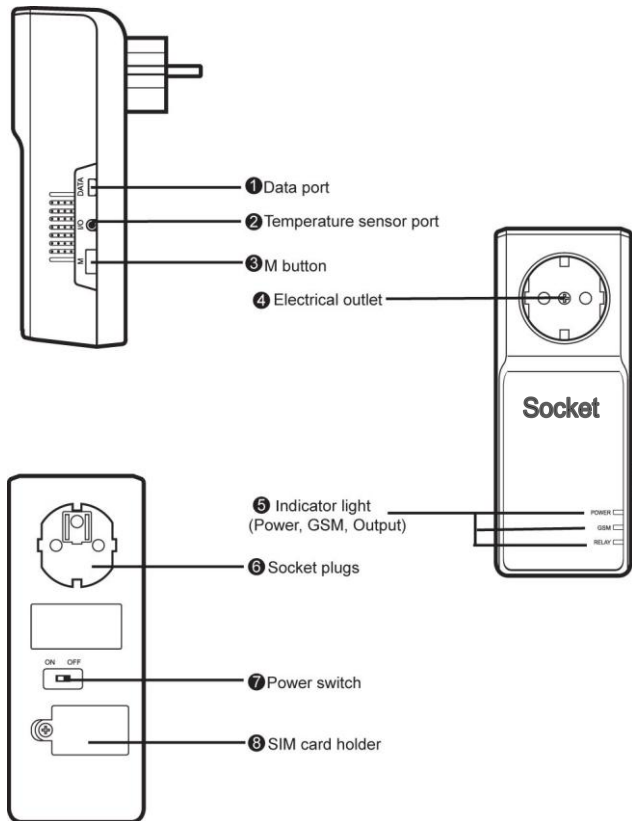

Figure 1: GSM Power Socket instructions
1. Turn the power switch to “On” position (See 7 on Figure1).
2. Plug the GSM Power Socket in an AC power socket (See 6 on Figure1).
3. Insert the plug of electronic appliance in the GSM Power Socket electrical outlet (See 4 on Figure1).
4. **M button** (See 3 on Figure1) can be pressed for about 0.5 second to switch on or off the output of socket.
Method 1: To press **M** button **0.5 second** (See 3 on Figure1).